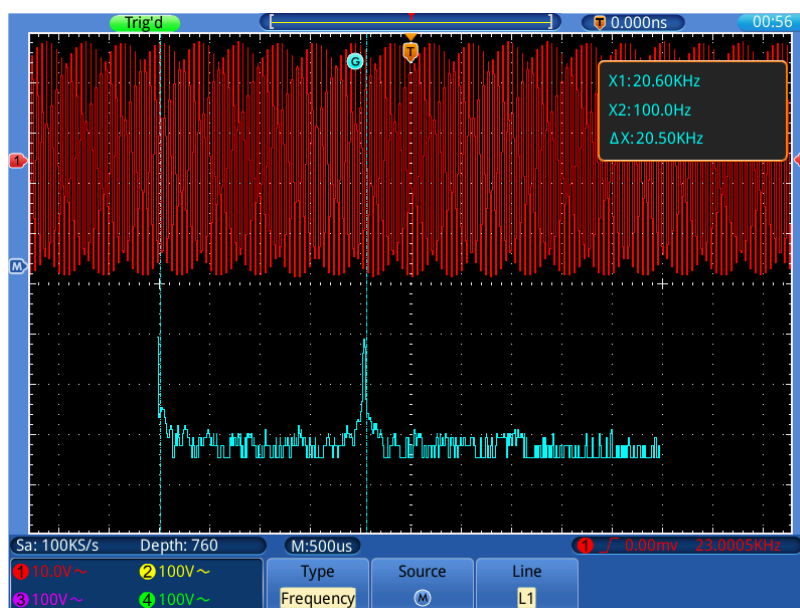

Figure 5-13 Wave of Freq cursor measurement
4. Select **Line** in the bottom menu; select **L1** in the right menu. The  icon will appear beside the dotted line of L1, represents you can turn the **G** knob to adjust the position of L1. Select **L2** to adjust the position of L2. Select **L1&L2** to adjust the two cursors together. The cursor measure window at the top right shows the present position of two cursors and the absolute value of frequency difference (see *Figure 5-13*).